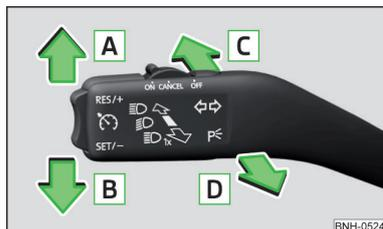

Fig. 40
- Slide the turn signal light lever (» Fig. 40 on page 60) downwards and hold it in this position.
- Slide the turn signal light lever (» Fig. 40 on page 60) upwards and hold it in this position.
Lever positions » Fig. 40